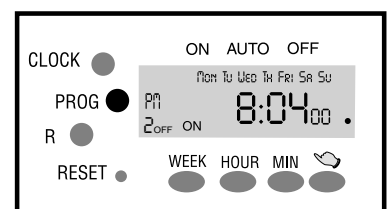

Figure 10
- 2.10 Repeat steps 2.2 through 2.9 for programming the timer for all "ON/OFF" Programs. (Maximum 8 ON/OFF programs) (See Figure 10)